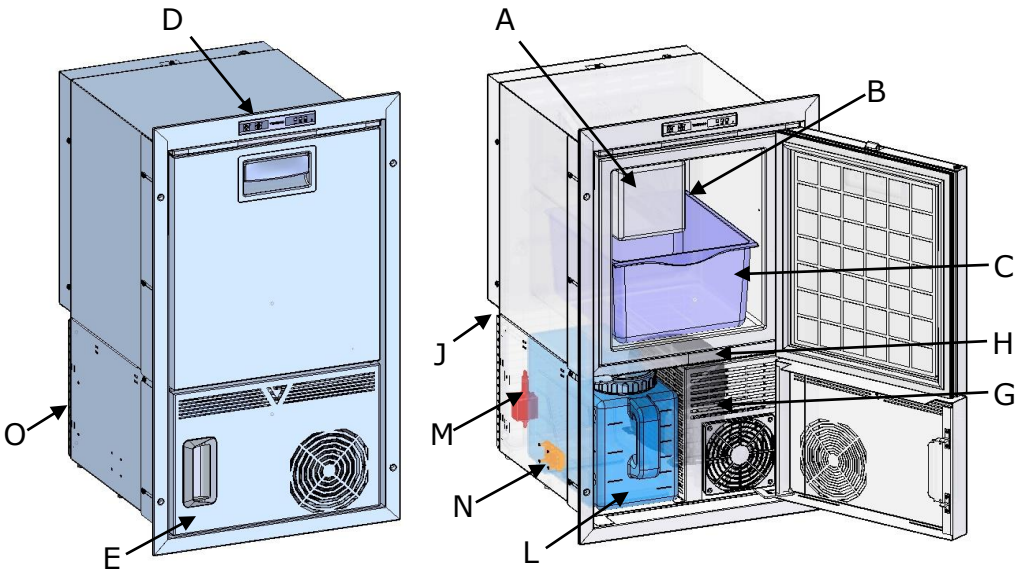

Fig. 4b
Having completed use of the ice maker, in order to best preserve its functionality and to avoid the formation of mould, proceed as follows. Turn off the ice maker and disconnect it from the electrical system. Empty the ice collection tray (C). Wait for the frost inside the tray to completely melt. Thoroughly dry the internal walls of the ice maker. Leave the door half open, using the vent-position on bracket I (see figures 5 and 5a) so that an air change can take place and so that no humidity is created inside the tray. For the REFILL versions, empty and clean the tank (L) (see fig. 4b, 4c).